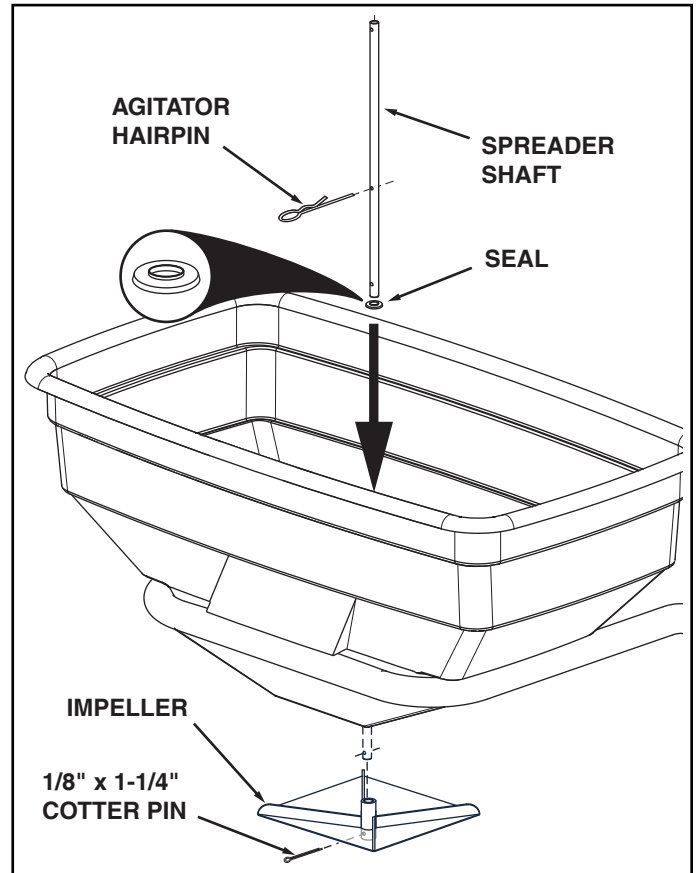

FIGURE 3
- 4. Insert agitator hairpin into middle hole in the spreader shaft. Assemble a seal (turned as shown in figure 3) onto end of the spreader shaft closest to hairpin agitator. See figure 3.
- 5. Slide end of spreader shaft having the seal through the plastic bushing in the bottom of hopper. See figure 3.
- 6. Slide the impeller onto the spreader shaft and secure it with a 1/8" x 1-1/4" cotter pin. See figure 3.